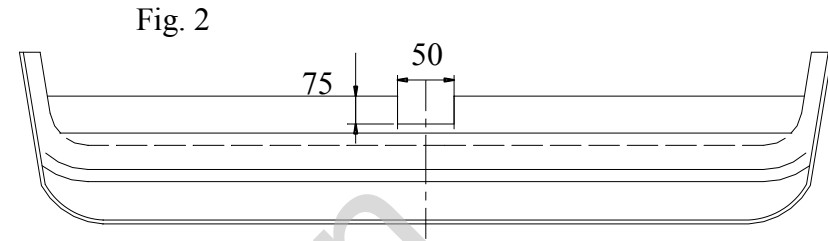

Fig. 2
2. Slide the towbar (pos. 1) to the chassis member and fit it using M10x35mm (pos. 6) supplied with the towbar.
3. Cut the bumper according to the fig. 2 and then reassemble it
5. Position the ball of towbar (pos. 2) with socket plate (pos. 3) and fix with M12x75mm (pos 4) and M12x70mm (pos. 5) bolts supplied with the towbar.